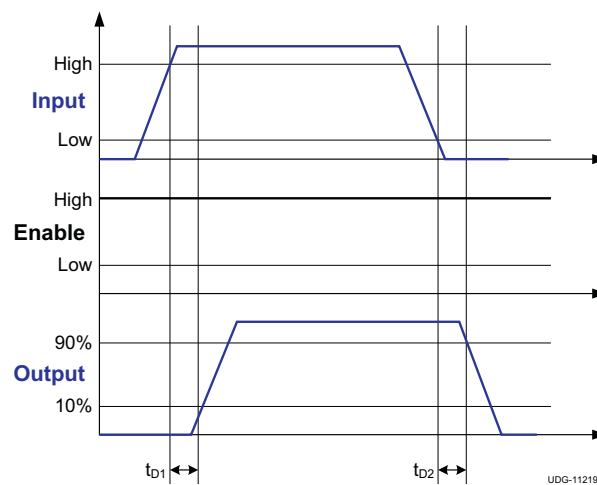

Figure 2. Non-Inverting Input Driver Operation
(1) Ensured by design.
(2) R_{OH} represents on-resistance of only the P-Channel MOSFET device in pullup structure of UCC27524A output stage.
(3) See timing diagrams in Figure 1, Figure 2 and